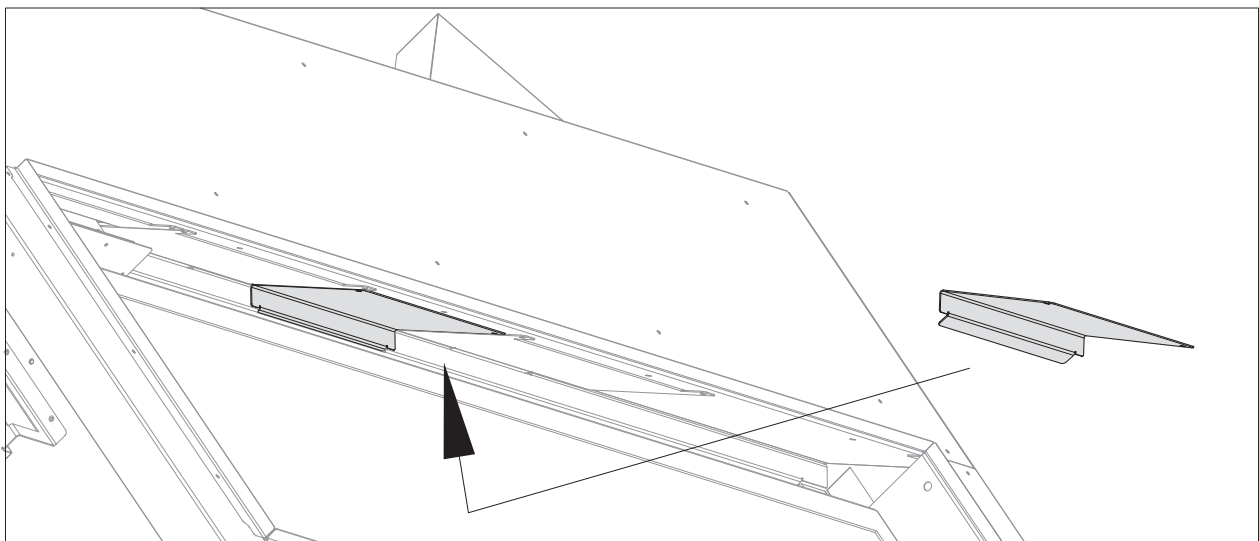

FIGURE 9.5 Fan Channel Block-off Plate Installation (shown from access side)
2. Locate the fan channel plates on the upper heat shield inside the firebox. See Figure 9.5.
3. Remove fan channel plate you wish to block-off (2) screws.
4. Note the flange orientation on the block off plate, as shown below. Install block-off plate with (2) screws previously removed.